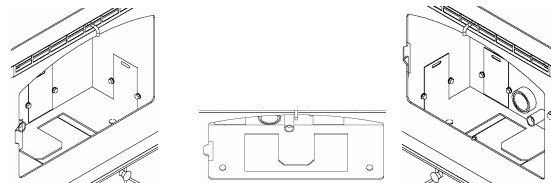

FIGURE 26
- Scrape ash in firebox into the pedestal ash bin through the opening in the bottom of the firebox or vacuum to remove ashes (see Figure 26).
- Interior Chambers** – Four ash doors in the firebox in the P23 can be removed for periodic cleaning (refer to figure 26). These doors allow access to the chamber surrounding the firebox.